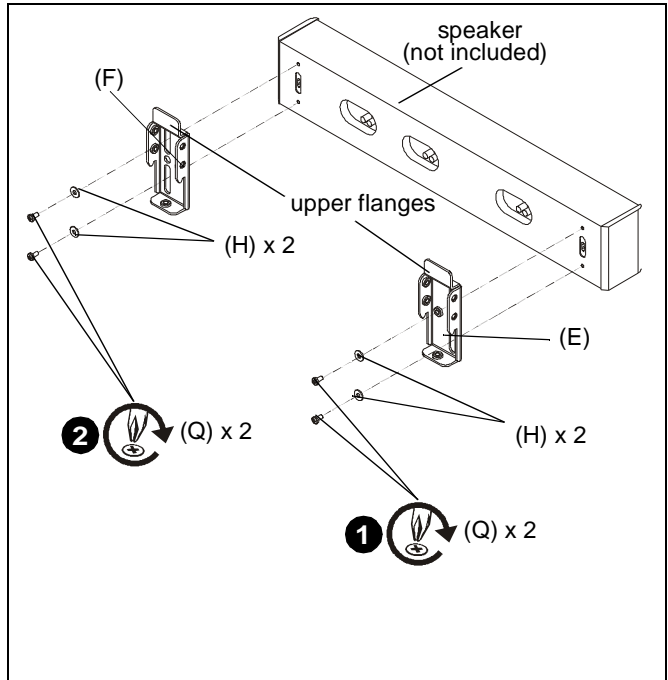

Figure 13
1. Attach left speaker interface (E) to back of speaker (left side) using two 1/4-20 x 1/2" Phillips pan head screws (Q) with two large washers (H). (See Figure 13)
NOTE: Ensure that upper flange of interface brackets are at top of speaker. (See Figure 13)
2. Repeat Steps 1 with right speaker interface (F). (See Figure 13)